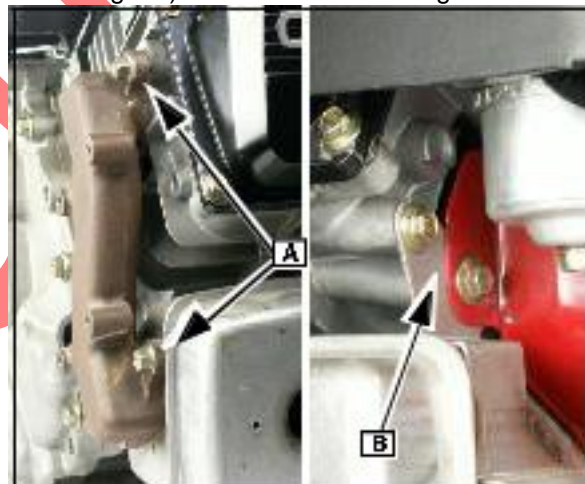

Fig. 17
3. Make sure the support bracket is under the blower housing flange ([B] Fig. 17) and start the mounting bolts.